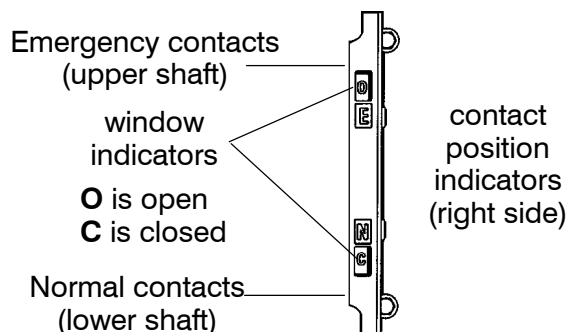

Figure 2-1. Contact position indicators.
1. Bypass, isolate, and withdraw the transfer switch (pages 3-1 through 3-4). Then locate and remove the maintenance handle from the clip (inside lower left side). Insert the handle onto the shaft on the left side of the operator of the transfer switch. See Figures 2-1, 2-2, 2-3 and Table C.